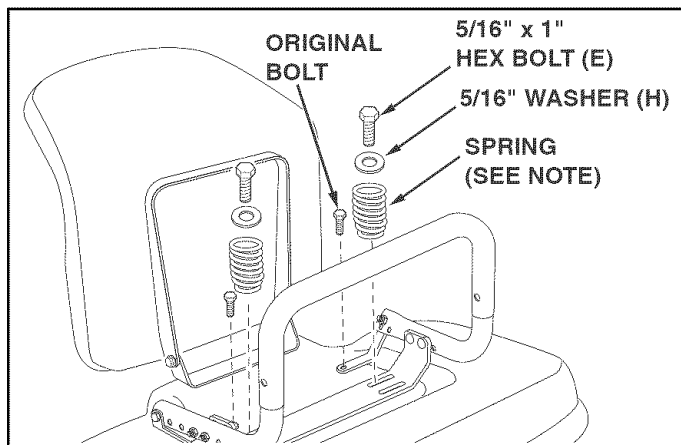

FIGURE 4
STEP 4: (SEE FIGURE 4)
- Attach the base bracket and the seat springs to the rear holes in the fender using the new 5/16" x 1" bolts (E) and 5/16" flat washers (H) supplied with the Snow Cab. If seat springs were mounted to front holes, see note below. **Do not tighten completely.**